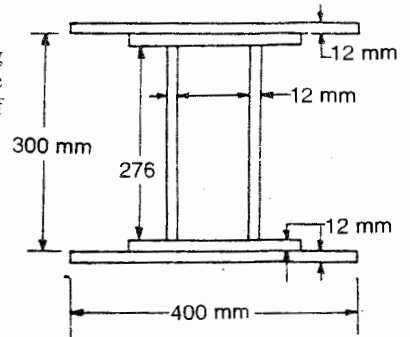

Fig. 6.33
10. Determine the moment of inertia of the compound section along the axis of X only passing through the centroid also find the radius of gyration. Fig 6.33